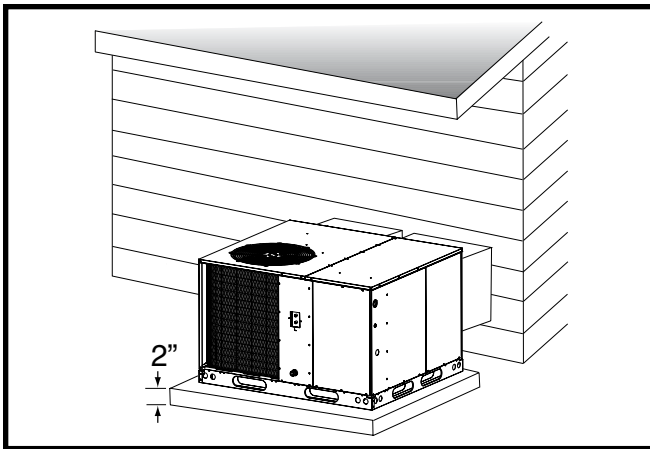

Figure 3. Ground Level Installation
- A suitable mounting pad must be provided and separate from the building foundation. The pad must be level to ensure proper condensate disposal and strong enough to support the unit's weight. The slab height must be a minimum of 2" (5cm) above grade and with adequate drainage. See Figure 3 \(page 7\).